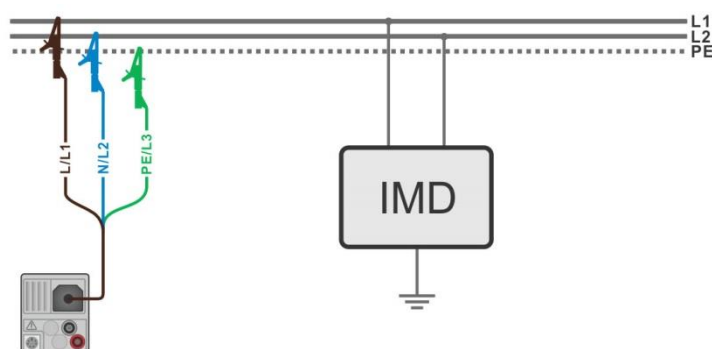
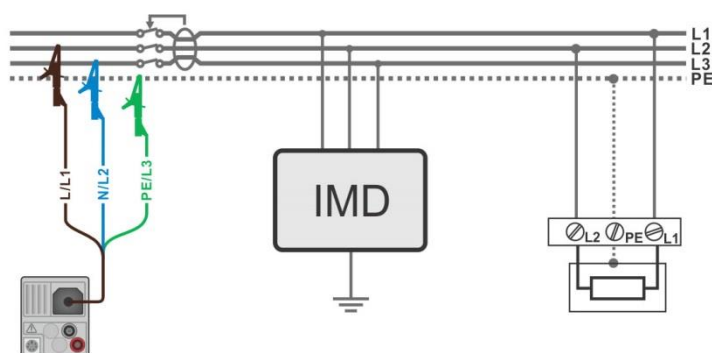

Figure 7.76: Measurement of highest First fault leakage current with 3-wire test lead
Figure 7.77: Measurement of First fault leakage current for RCD protected circuit with 3-wire test lead
- › Connect test leads to the object under test, see **Figure 7.76** and **Figure 7.77**.